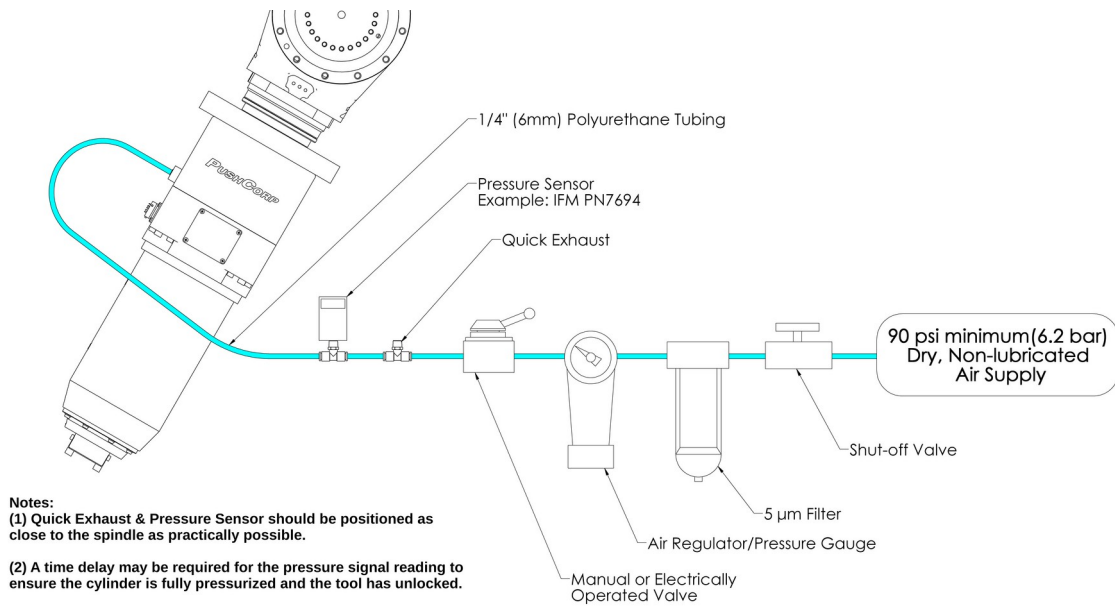

Figure 7: Pneumatic Connections
The pneumatic supply system should be configured as shown in Figure 7. A manual or electrically operated valve may be used to energize the STC1515 for toolholder release, but the valve must exhaust **ALL** line pressure when unenergized. An electrically operated pneumatic valve is normally used in an automated work cell. PushCorp highly recommends the installation of a Pressure Switch in the Supply Line to the STC1515. This switch should not allow the STC1515 to start if there is any pressure in the Supply Line. Pressure in the line will cause internal components to come into contact. This will either cause the motor not to spin, or cause very high internal friction, eventually friction welding components together.
5. Using a pressure sensor, such as IFM PN7694, verify that you have achieved at least 90 psi, again not to exceed 100 psi (refer to Figure 7 for connection set up)